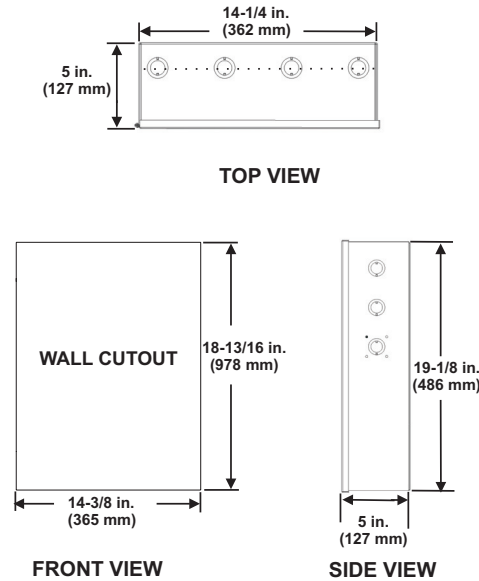

Figure 2-3. Semi-Flush Mounting Dimensions
1. Cut and plumb an opening of dimensions as shown in Figure 2-3 in the wall on which the control unit will be semi-flush mounted.